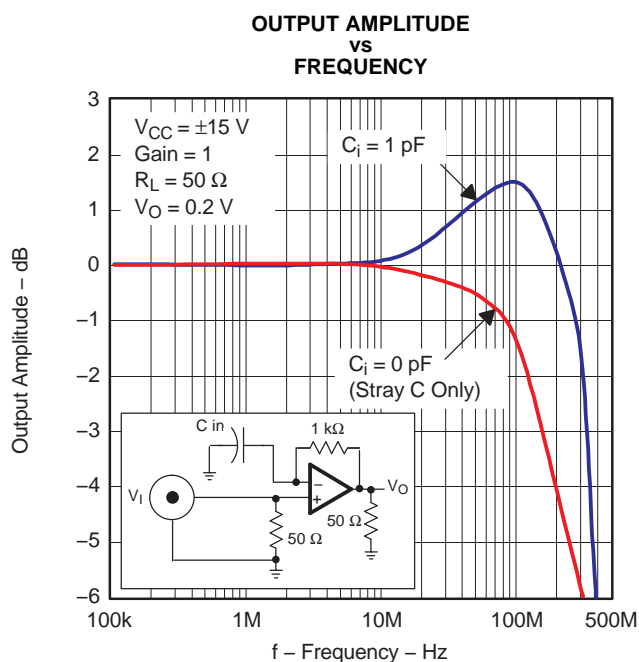
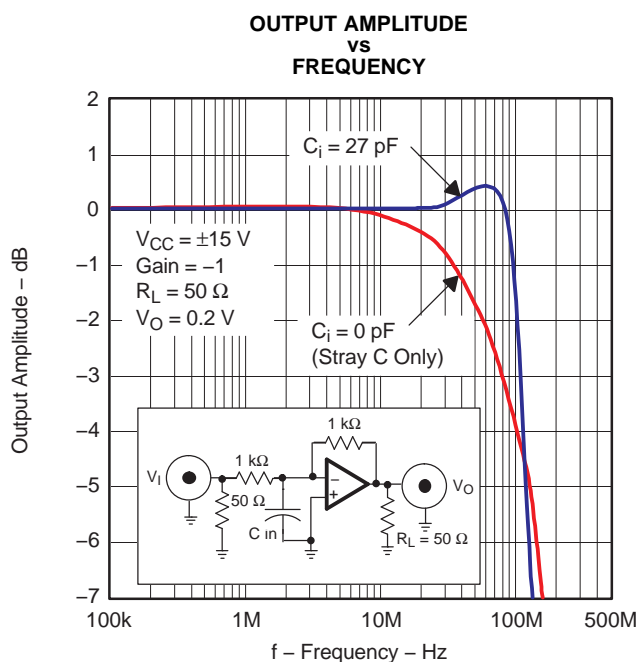

Figure 56.
Figure 57.
- **Input stray capacitance**—To minimize potential problems with amplifier oscillation, the capacitance at the inverting input of the amplifiers must be kept to a minimum. To do this, PCB trace runs to the inverting input must be as short as possible, the ground plane must be removed under any etch runs connected to the inverting input, and external components should be placed as close as possible to the inverting input. This is especially true in the noninverting configuration. An example of this can be seen in Figure 56, which shows what happens when a 1-pF capacitor is added to the inverting input terminal in the noninverting configuration. The bandwidth increases dramatically at the expense of peaking. This is because some of the error current is flowing through the stray capacitor instead of the inverting node of the amplifier. While the device is in the inverting mode, stray capacitance at the inverting input has a minimal effect. This is because the inverting node is at a virtual ground and the voltage does not fluctuate nearly as much as in the noninverting configuration. This can be seen in Figure 57, where a 27-pF capacitor adds only 0.5 dB of peaking. In general, as the gain of the system increases, the output peaking due to this capacitor decreases. While this can initially appear to be a faster and better system, overshoot and ringing are more likely to occur under fast transient conditions. So, proper analysis of adding a capacitor to the inverting input node should always be performed for stable operation.